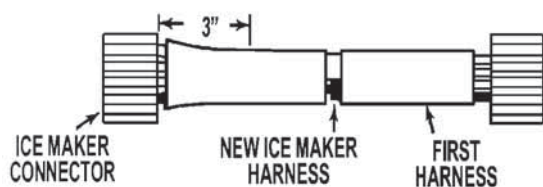

Figure 2
4. Remove the insulation sleeves and cut the new ice maker harness 3 inches from where the connector plugs into the ice maker. Strip the insulation from each wire. See figure 2.